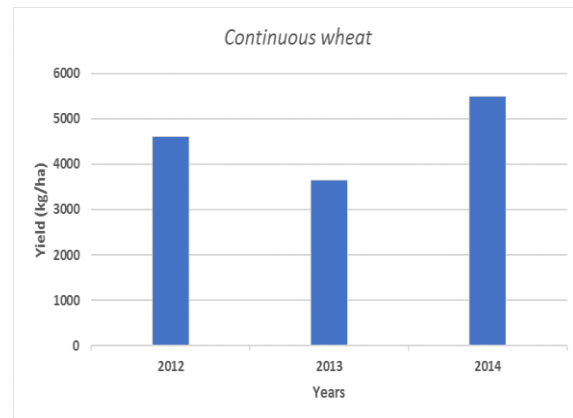

Figure 32. Winter wheat yield
23. Click **Simulation Analysis** where you can find all the outputs from your simulation. Select **Plant**, then **Plant Harvest** and a window with the data comes out. Click **SAVE AS** and write a file name, save as a .csv file and click **Save**. You have created an excel file which you can use to visualise the obtained results. Now open the created excel file and plot the yield ("first_plant_economic_organ_DM") for the three years (Figure 32).